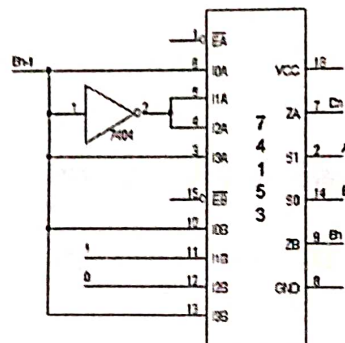

Figure 4: Connection diagram of Full Subtractor using 74153
MUX map for Difference is implemented in A part of MUX IC & MUX map for Borrow is implemented in B part of MUX IC, A & B are select lines as indicated in Figure 4:
- 6. Data line inputs for FS:** Make use of 7404 and create input connections to MUX-A and MUX-B part of IC-74153 as shown in Figure 4.